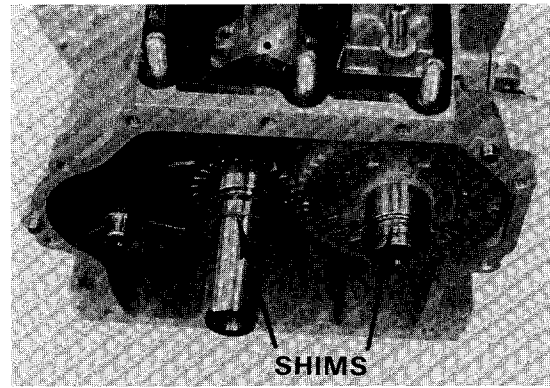

Figure 6-43
15. Install one shim **each** on crankshaft (79) and cam shaft (95) (Figure 6-43).
16. Install new housing gasket (73) over dowel pins (76A) to hold in place.